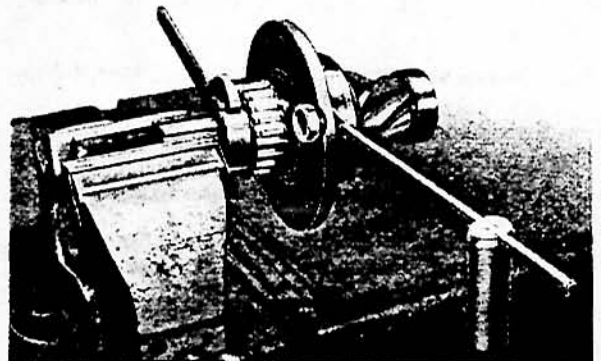

FIG. 16 SETTING DRIVING PINION BEARING PRE-LOAD
4. With assembly mounted as shown in Fig. 16, tighten locknut until torque loading of 18-22 lb. in. (21-25 kg.m.) is required to turn shaft.